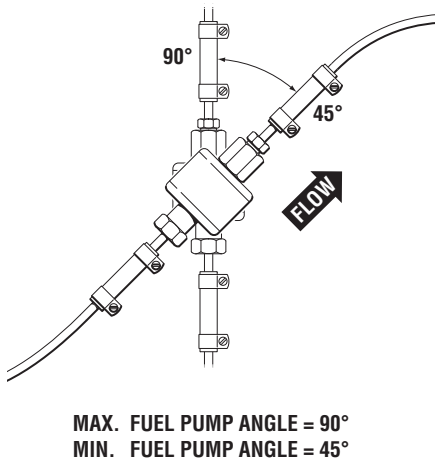

Figure 22. Fuel Pump Angle.
- The fuel line from the pump to the heater must incline directly to heater (refer to figure 22).
11. The pump must be installed  $\pm 45$  degrees of vertical to prevent air bubbles from forming (refer to figure 22).